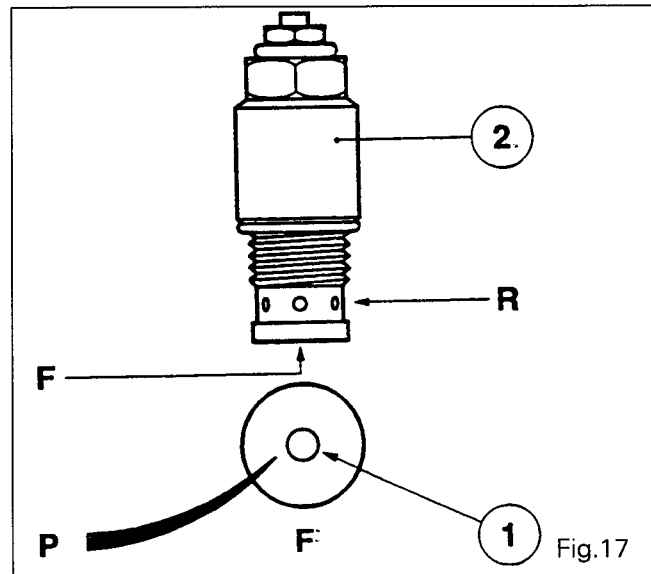

Fig.17
Pressure relief valve (2) (Fig. 17)